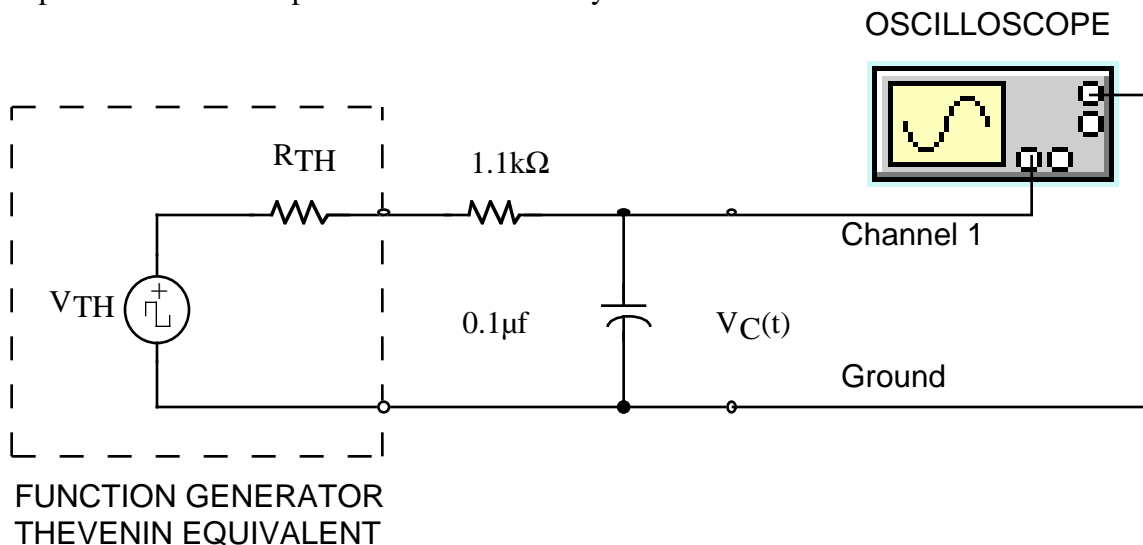
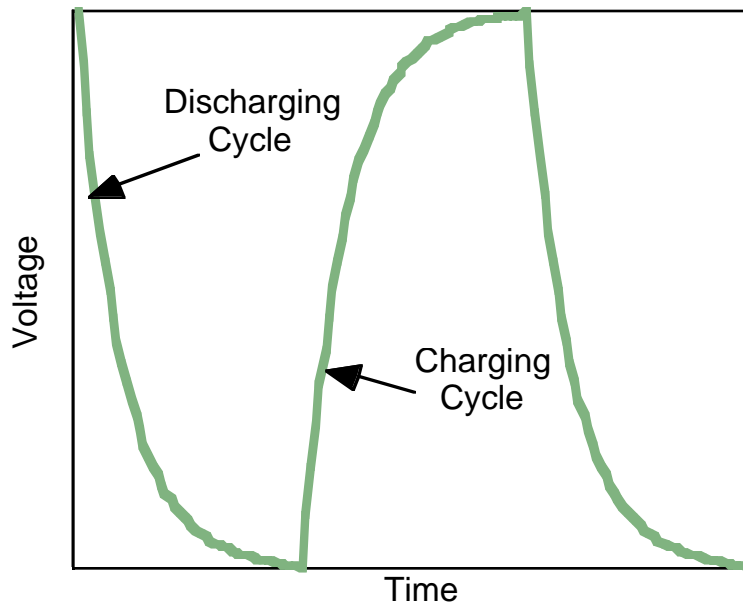
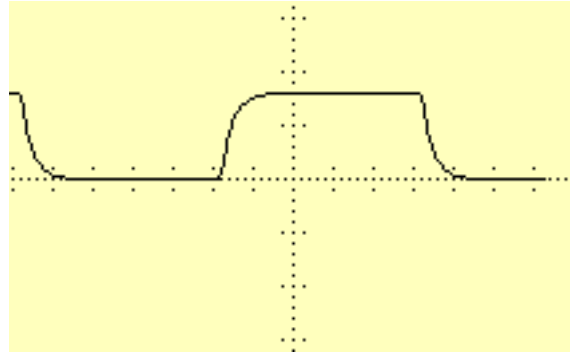

Figure 1. Driven RC Circuit
Figure 2. RC Charge/Discharge Cycle
Figure 3. Oscilloscope display of RC response to square wave.
Assume the output resistance of the function generator (R_{TH} in Fig. 1) is 50Ω . Do an EWB transient analysis of the circuit of Figure 1. Use an 8 V PP square wave source with no DC offset. Note that there is a square wave source in the passive parts bin which is identical to the one shown in Figure 1; you do not need to use the function generator in EWB. You will need to determine an appropriate source frequency so that the voltage across the capacitor reaches its final value before the source changes to the next voltage level. The results of your computer circuit analysis should look similar to Figure 2. At low frequencies (i.e., 50Hz) the capacitor voltage waveform will look essentially like the input — a square wave. At higher frequencies the waveform will look like that shown in Figure 3. Finally, as the frequency increases still higher the waveform will look like that shown in Figure 2. Print out the results and include them in your lab report. See Appendix I for an explanation of how to perform a transient analysis in EWB.
The equation describing the output $v_c(t)$ of the circuit of Figure 1 is of the form:
where IC is the initial value (initial condition) of the voltage, FC is the final value (final condition) of the voltage, and T_c is the circuit time constant. Assume the function generator produces a square wave with a peak-to-peak voltage of 8 V, no DC offset ($V_{avg} = 0V$), and a period T_o greater than $10T_c$. Under these circumstances the initial condition IC and the final condition FC will be equal to the maximum and minimum voltages of the source. In this case, the assignment of +4 V or -4 V to the initial condition IC depends on whether the charging cycle or the discharging cycle are being observed, as shown in Figure 2. For the discharging cycle the initial condition $IC = +4$ V and the final condition $FC = -4$ V. The opposite is true for the charging cycle, $IC = -4$ V and $FC = +4$ V.
Determine the output resistance of the laboratory function generator, R_{TH} . This value can be determined from the HP instrument specifications available on the ENGR 210 Web page. If you cannot find this data you may assume it is 50Ω but should state that assumption in Data Table 1. Record R_{TH} and your data source in Data Table 1. The Thévenin equivalent model of the function generator is shown in Figure 1.
1. Build the circuit shown in Figure 1 on your protoboard. **Before constructing the circuit** measure and record the EXACT value of your resistor and capacitor. Use the DMM to measure the value of your resistor. Record this value in Data Table 2. Use the digital capacitance meter available in the instrument room to measure the capacitance of the capacitor you use in your circuit. Also record this value in Data Table 2.
- a. Set the oscilloscope to display the waveform $v_c(t)$ produced by this circuit. The display should be similar to a square wave but with slightly rounded edges as shown in Figure 3.
1. Include an EWB Simulation of the circuit of Figure 1.